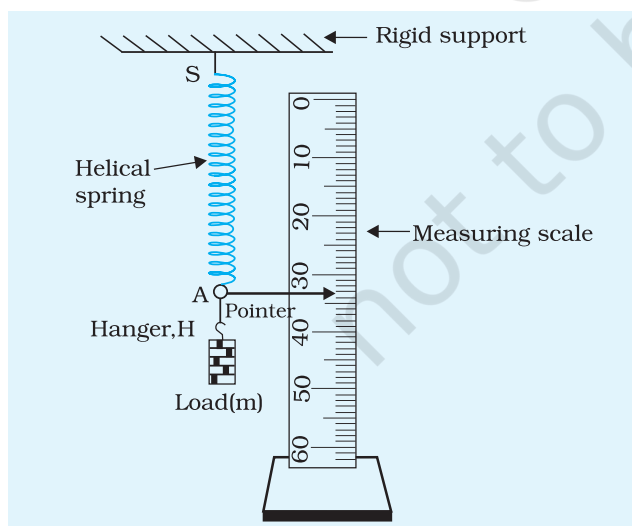

Fig. E 10.1: Experimental arrangement for studying spring constant of a helical spring
1. Suspend the helical spring SA (having pointer P and the hanger H at its free end A), from a rigid support, as shown in Fig. E 10.1.